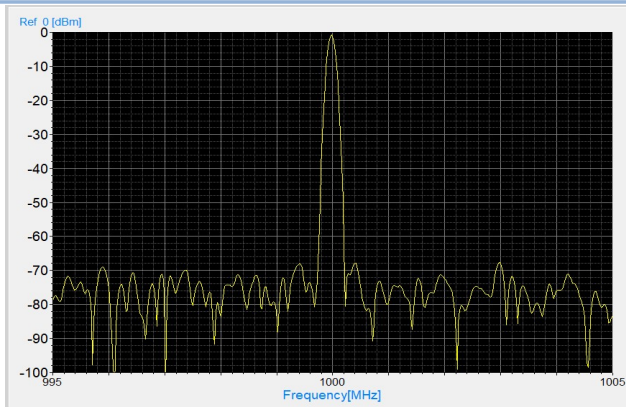

Fig.10 FFT freq sweep Default setting
1. Select **FFT Frequency Sweep** in the Mode menu. The key will switch to **ON**, and the device enters the default FFT sweep settings: **Freq = 1 GHz**, **SPAN = 10 MHz**, **RBW = 100 kHz**, **Amplitude = 0 dBm** (see Fig. 10).